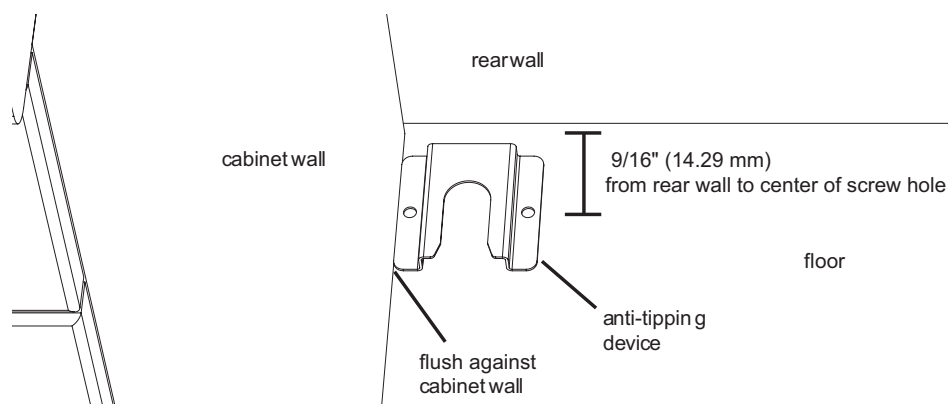

Figure 4: Anti-tip Bracket Location
3. Measure to locate bracket position as shown in Figure 4: Anti-tip Bracket Location.